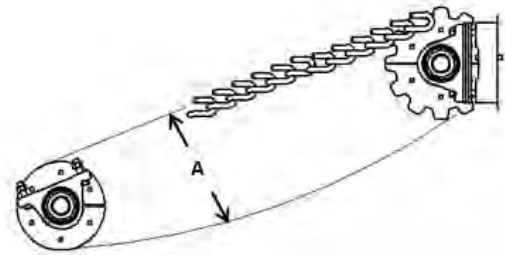

Figure 7-20: Distance between Top and Bottom Chains
NOTE: Distance (A), shown in Figure 7-20, between top and bottom chain should be kept at 11-12 inches (27.9 – 30.5 cm), measured from the centerline of chains.